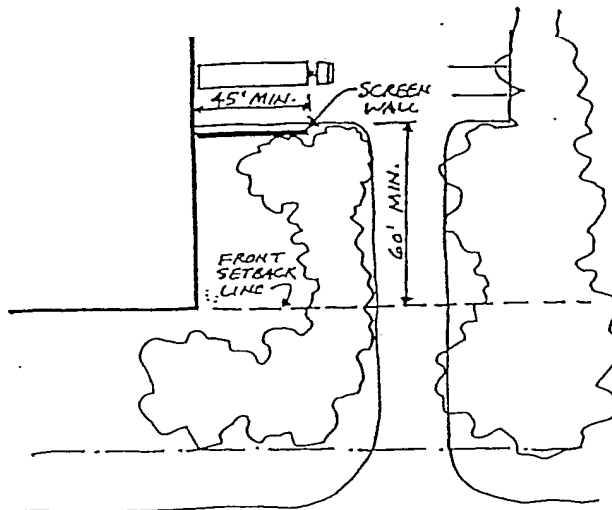

Figure 23
- ☐ Do not locate loading spaces, storage areas, dumpsters, or other trash areas facing public rights-of-way. If no other location is possible, set the area back a minimum of 60 feet from the front setback line and screen with a solid wall of 6 feet minimum height or a height which is 2/3 of the height of the objects (e.g., loading doors) being screened, whichever is the higher (Figure 23). In cases where functional building and site requirements do not allow 60 foot setbacks, consult with County staff regarding appropriate visual mitigation measures (e.g., landscaping).